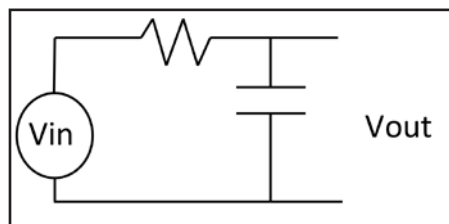
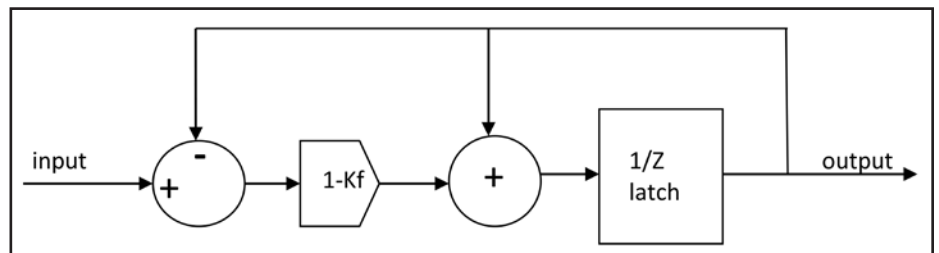

Figure 1 Low-pass analog filter.
Figure 3 Digital filter implementation.
Figure 1 shows a simple RC (resistor-capacitor) low-pass filter. The same transfer function is observed in mechanical systems where one element varies the flow based on differences, while another element integrates the flow. For example, for hydraulics this would be a flow restriction and an accumulator or a tank.
The low-pass RC filter in Figure 1 can be studied by looking at its time response. To simplify, we will assume the capacitor starts out discharged, and then  $V_{in}$  steps to  $1v$ .
**Capacitor.** The voltage across the capacitor is proportional to its charge, which is the time summation (Integral) of the current into the capacitor. The Digital simulation of Figure 1 is shown in Figure 3. The box labeled 1/Z is just a delay box (a latch or memory location): it holds the previously sampled output estimate until we update the simulated estimate, implemented as a memory location when implemented on a computer. The circles represent addition / subtraction functions, and the tapered